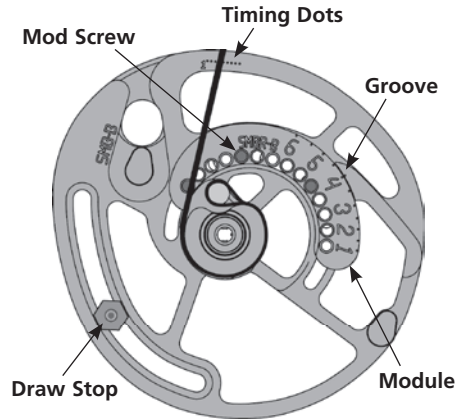

Figure 1
1. Using an Allen wrench, remove the "Module screws" that attach the module to the cam (See Figure 1). **NOTE:** Depending on your draw length, you may need to press the bow to be able to access all screws for removal.